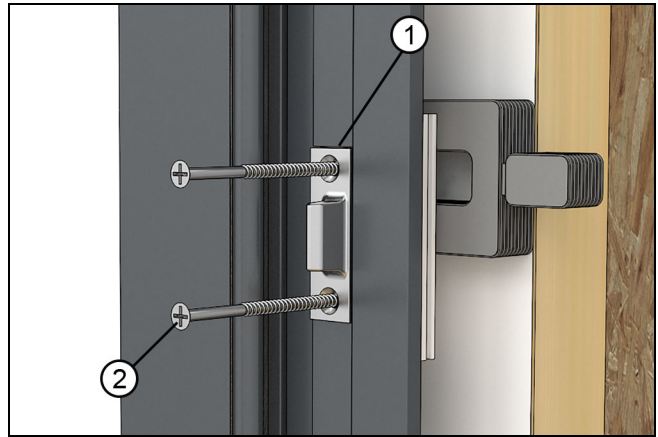

Figure 38
12. Fasten strikes, panel alignment bolts, hinges, and stationary brackets to the rough opening. Shim at all fastener locations between the frame and the rough opening. See Figure 36, Figure 37 and Figure 38.